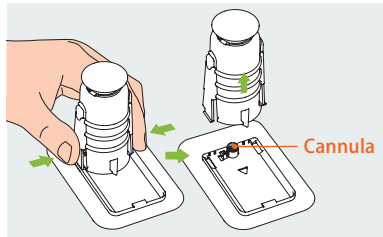

Figure 57
- 5** Release the inserter from the pump base by pushing the two hooks toward each other as shown in Figure 57. If the inserted needle or needle base remains on the cannula, carefully remove it from the infusion site. Place the protective sleeve back onto the cannula assembly.